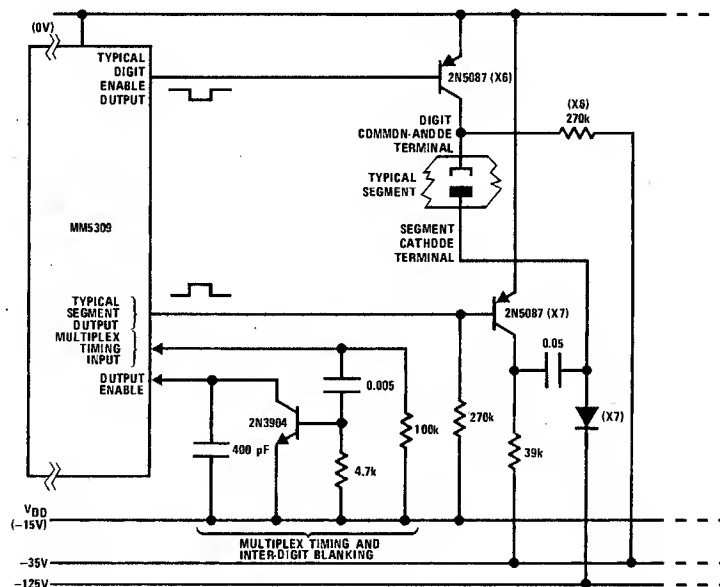

FIGURE 9. Interface Panaplex II\* Neon Display Tube
**Output Circuits:** *Figure 5a* illustrates the circuit used for the BCD and 7-segment outputs. *Figure 5b* shows the digit enable output circuit. *Figure 6* illustrates interfacing these outputs to standard and low power TTL. *Figures 7 and 8* illustrate methods of interfacing these outputs to common anode and common cathode LED displays, respectively. A method of interfacing these clocks to gas discharge display tubes is shown in *Figure 9*. When driving gas discharge displays which enclose more than one digit in a common gas envelope, it is necessary to inhibit the segment drive voltage(s) during inter-digit transitions. *Figure 9* also illustrates a method of generating a voltage for application to the output enable input to accomplish the required inter-digit blanking.